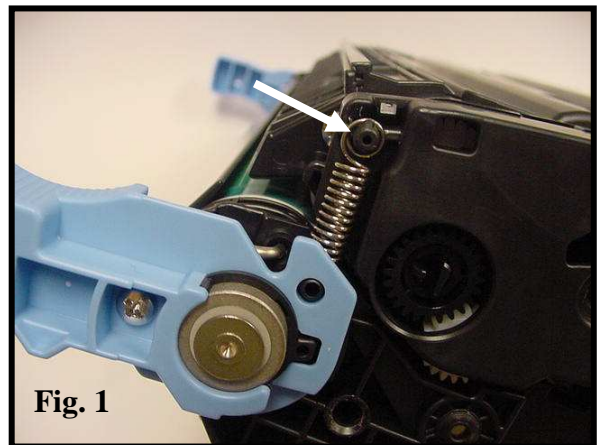

Fig. 1
1. Release the tension spring from the cartridge post located near the blue cartridge handle (Fig.1).